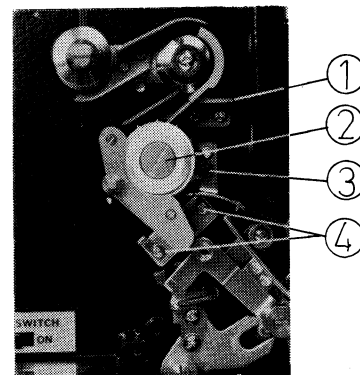

Fig. 23
- a. Remove the threading guide (3). (Fig.23)